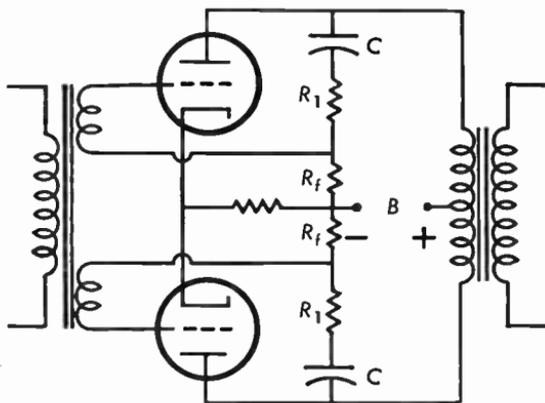

Fig. 8.23 Push-pull circuit with negative feedback.
8.23 In the circuit of Figure 8.23, $R_1 = 50,000$ ohms, $R_f = 5000$ ohms; the coupling capacitor C is large enough to offer only negligible reactance at audio frequencies. Calculate the feedback factor β .